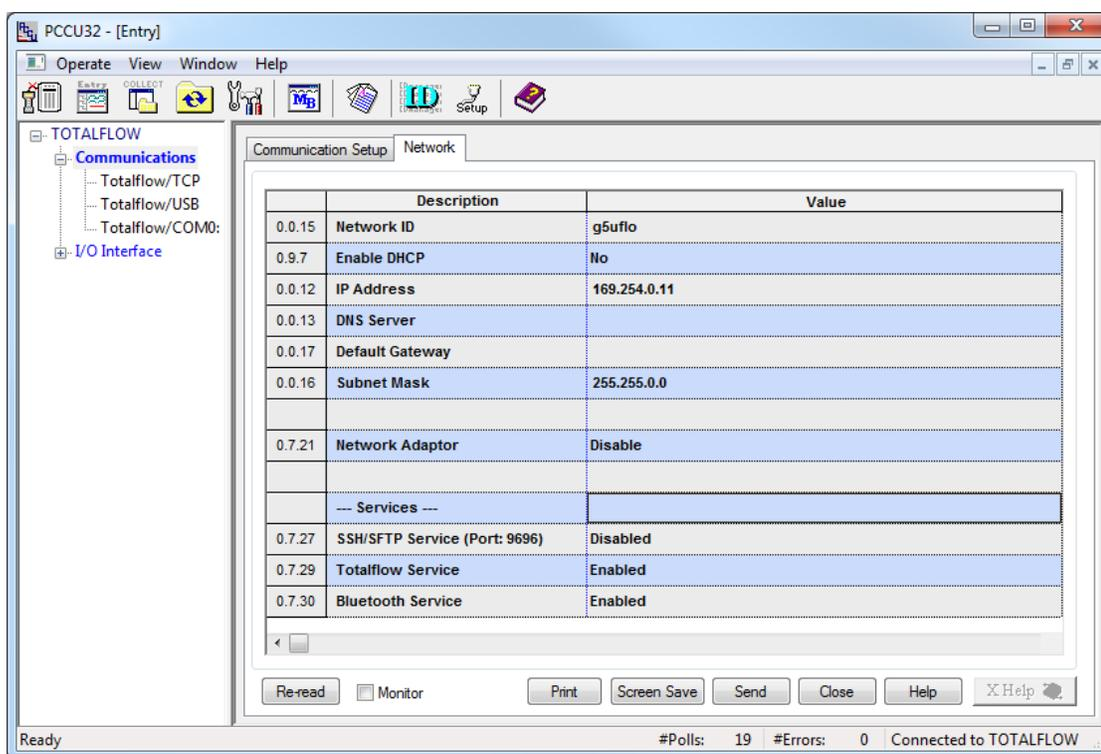

Figure 39: Network communication setup
4. Select **Communications** on the Entry mode navigation tree, then click on the **Network** tab. (Figure 39).